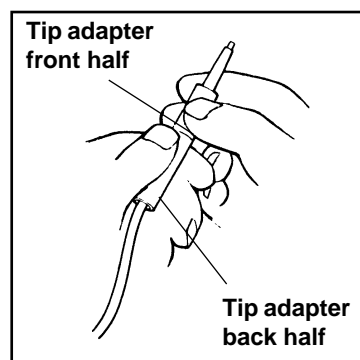

Figure 9.20
2. Pull and twist tip adapter to separate front and back halves of adapter (Figure 9.20).